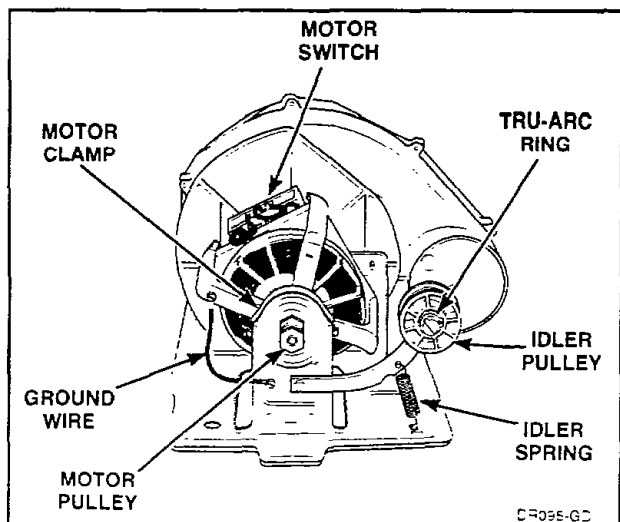

Figure 33
Refer to *Figure 33* for motor and idler pulley removal.
- (2) Disconnect earth wire (ground) from motor, *Figure 33*.
- (3) Use a screwdriver and pry two motor clamps off motor mounting bracket, *Figure 33*. Then lift motor out of mounting bracket.
**NOTE:** When replacing motor, motor switch location should be at 10 o'clock position (viewed from pulley end, *Figure 33*) with the anti-rotating notch (located on the front and rear cradles) in the motor mounting bracket.